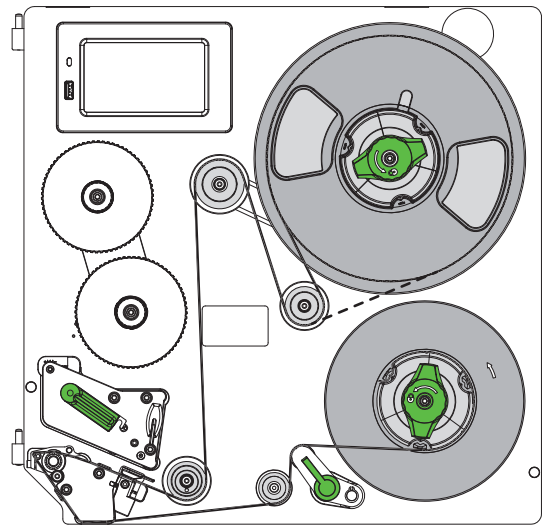

Figure 13 Label feed path
1. Turn lever (4) counterclockwise to lift the printhead (2).
2. Move the guide (6) to the outermost position by turning the spindle (7) with the Allen key (8).
4. Guide label strip (5) to the print unit as shown in Figure 13. The broken line shows the path for inside wound labels.
5. Guide label strip through the label sensor (3) to the peel-off edge.
6. Move the guide (6) against the label strip by turning the spindle (7).
7. Forward the label strip over the peel-off edge (1), that the strip reaches back internal rewriter. Remove the labels from the overhanging strip.